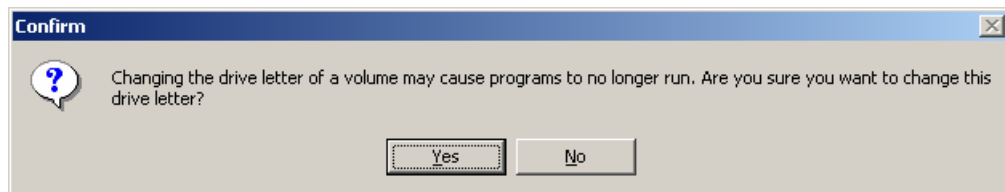

Figure 2-38 [Confirm] dialog box
- 4) The [Confirm] dialog box is displayed. Click <Yes>. See Figure 2-38.